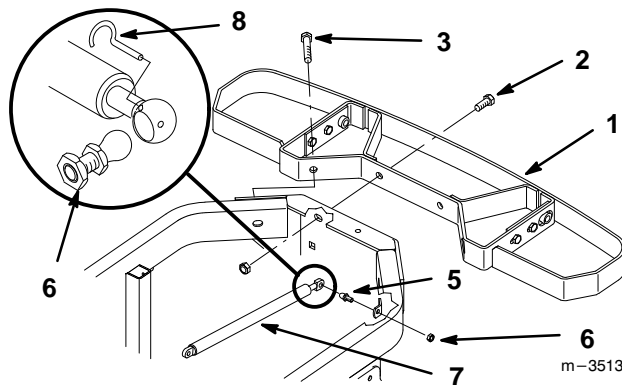

Figure 11
2. Position bumper around top rear of frame and secure in the center with (2) 1/2–13 x 1-1/4” (32 mm) bolts and 1/2–13 locknuts (Fig. 11). Secure to outer holes with (2) 1/2–13 x 2-3/4” (57 mm) bolts and 1/2–13 locknuts.
3. Install ball stud to hopper frame and traction unit frame tab with 5/16–18 locknut (Fig. 11).
7. Snap gas spring rod ends over ball stud at frame and hopper. Secure with safety clips (Fig. 11).